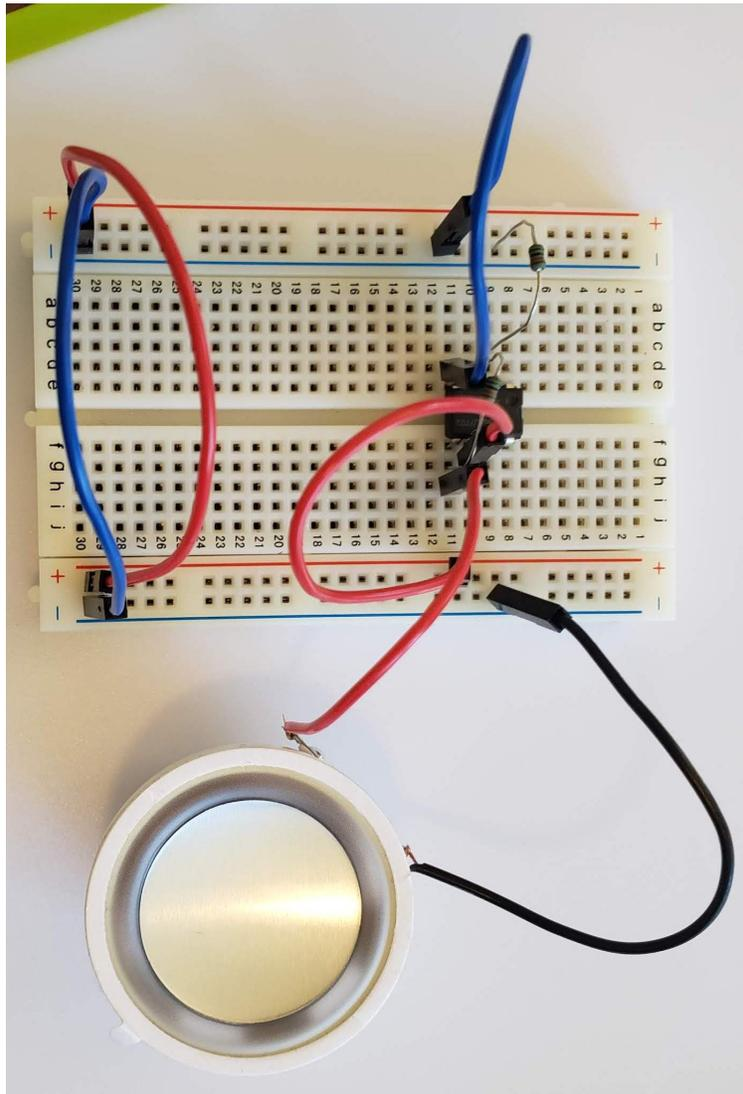

Figure 9: Connect speaker to the circuit.
- 3.9. Now connect one speaker wire to v_{out} and the other speaker wire to a GND power rail. See Figure 9.